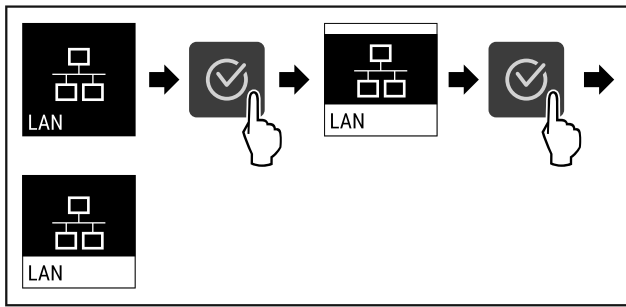

Fig. 91
- ▶ Complete the steps (see Fig. 91) .